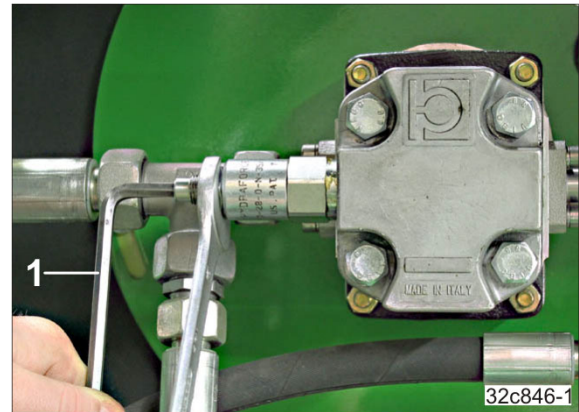

Fig. 164
1. Loosen the lock nut (Fig. 164).
- 2.1 Turn the bolt with the hexagon socket wrench (Fig. 164/1) accordingly.
2. Use the hexagon socket wrench (Fig. 164/1) to set the target fan speed on the pressure relief valve. Do not exceed the maximum fan speed of 4000 rpm.